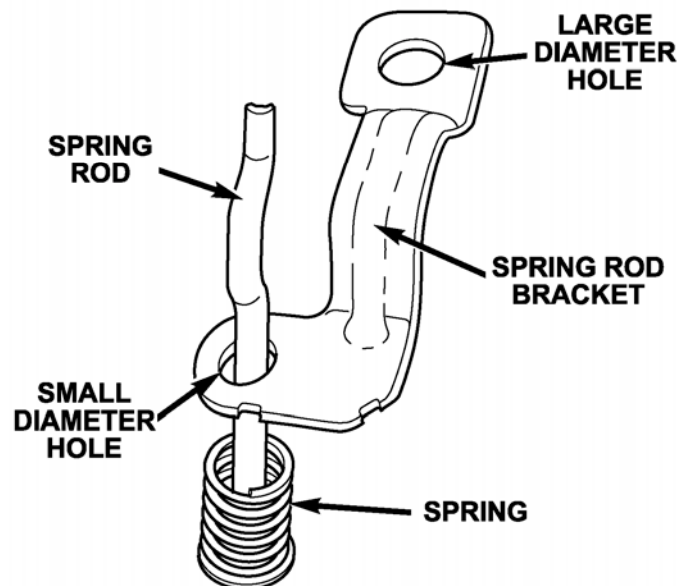

Figure 3
8. Insert the spring rod through the spring rod bracket as shown in Figure 3.